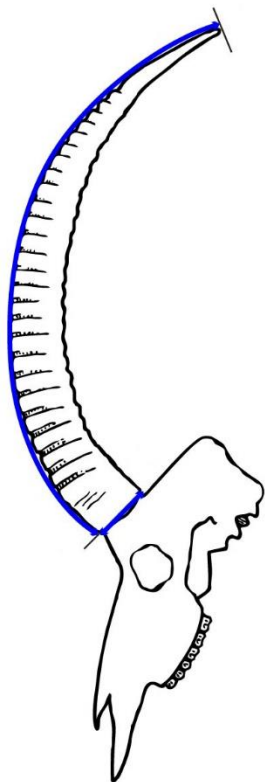

Figure 1 Roan
1. Length. Measure the length of the each horn on the front curve (in the center of the horn) from the lowest edge of the base to the tip. (Figure 1, 2, 3) If the tip is broken and the tape does not come to the end of the horn before the break starts, the broken or worn end must be carded off. (See carding off in General Instructions.)